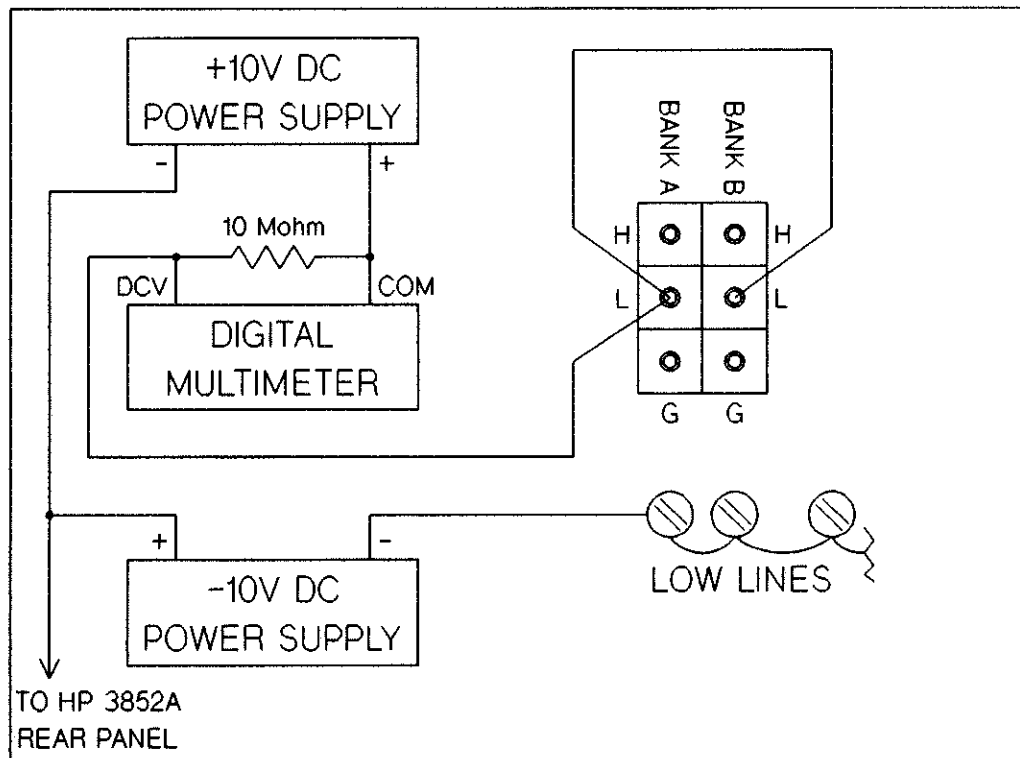

Figure 9-19 HP 44709A/44710A Open LOW Channel Test-Setup
10. Refer to Figure 9-19. Connect the negative power supply's negative lead to the shorted LOW lines on the test fixture. Connect the negative power supply common lead to the chassis.